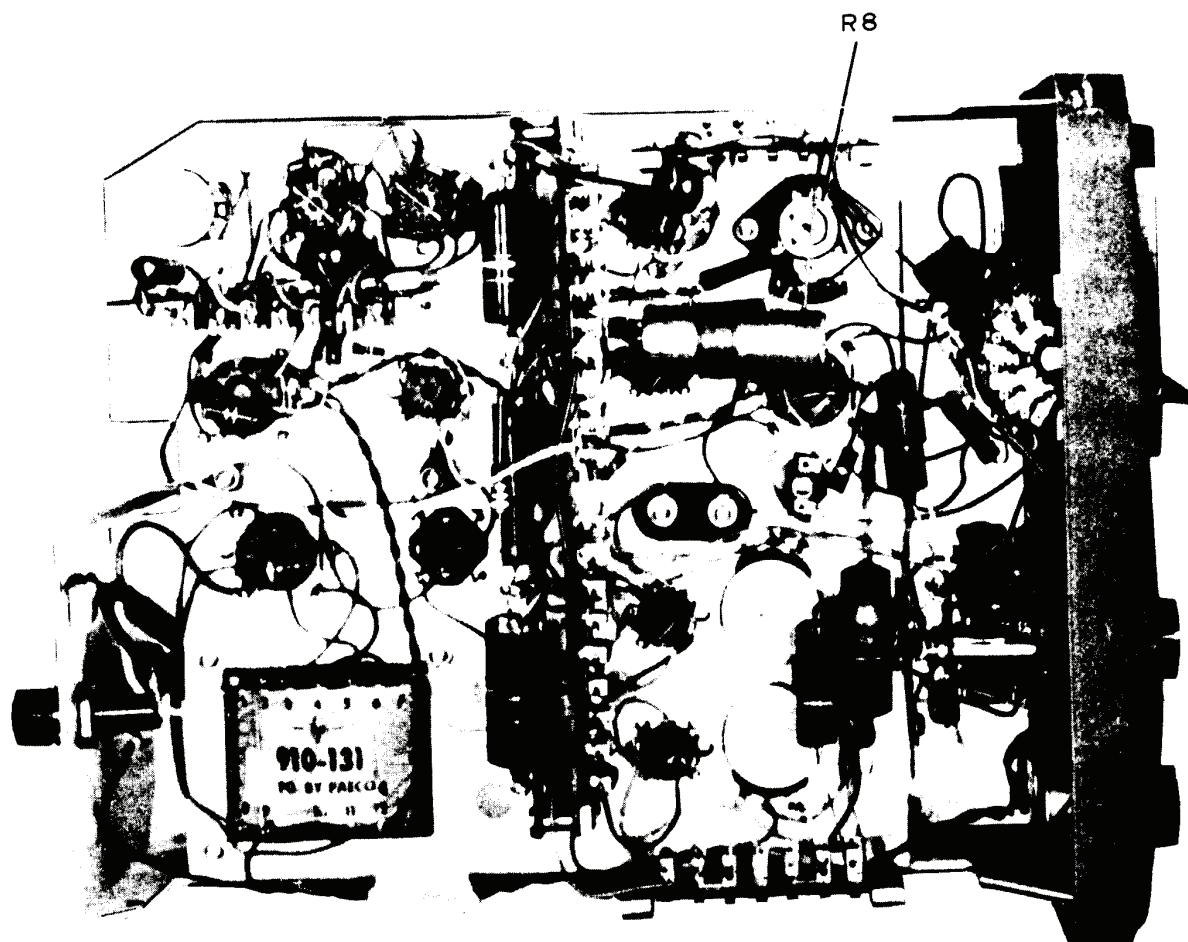

Figure 4. Test instrument - left side view.
- (1) Set **BOLO BIAS CURRENT (BIAS CURRENT** on TS-779/U) switch to **OFF**.
- (2) Rotate **ZERO SET COARSE** and **FINE** controls fully cw.
- (3) Rotate R8 (fig. 4) fully cw and then one eighth turn ccw.
- (8) Note error from 1.0 V on multimeter and adjust R8 (fig. 4) to double the error. (For example, if multimeter indicates 0.9 V, adjust R8 until multimeter indicates 0.8 V.) (R).
- (9) Repeat (4) through (8) above until no error is present.